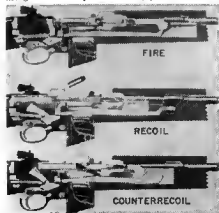

Figure 39. Functioning of operating parts (semi-automatic setting).
a. The action as the operating slide moves forward is the same as on the semi-automatic setting (Page 28) and (Fig. 39), up to the time the camming surface on the operating slide contacts the toe of the disconnector lever. At this point, the operating slide cams down the toe of the disconnector lever. This raises the rear end of the disconnector lever, which is in contact with the disconnector. The forward end of the disconnector is cammed upward. The disconnector rotates about the hammer pin, and the projecting leg on the rear of the disconnector moves downward. With the trigger still held back, the projecting lug of the disconnector presses against the raised shoulder of the sear and the sear nose is disengaged from the hammer. The hammer spring then rotates the hammer forward, and the carbine fires. This happens every time the operating slide moves forward if pressure is maintained on the trigger (see next column).